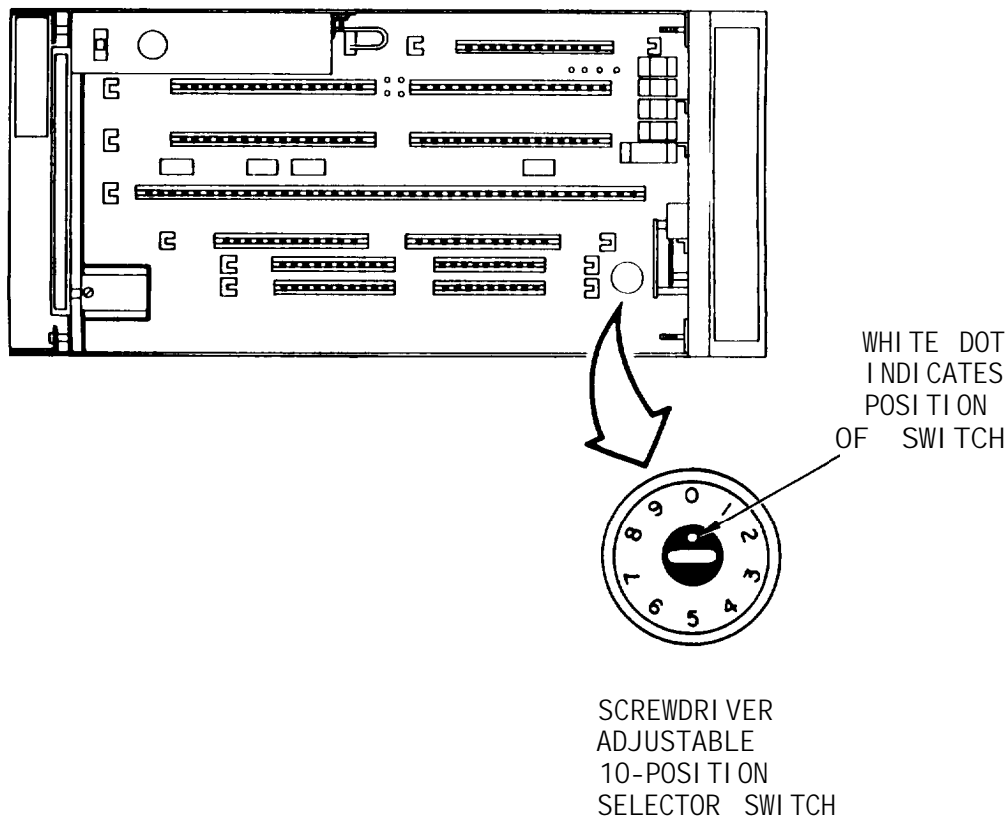

Figure 1-6. Transmit Output Level Switch
b. Transmit Output Level. The output level of the transmit output amplifier is switch-selectable to configure to a variety of applications. Level may be set at -16, -14, -12, -10, -8, -6, -4, or 0 dBm (fig. 1-6).
(1) In 2400 baud mode it requires a balanced 600-ohm, type 3002, C2 unconditioned telephone line or equivalent, with a normal 16 dBm loss and frequency translation of up to  $\pm 10$  Hz.
(2) In 1600 baud mode it requires a balanced 600-ohm, type 3002, unconditioned telephone line or equivalents, with a normal 16 dBm loss and frequency translation of up to  $\pm 10$  Hz.
(2) Transmit Output Level Switch. The transmitter output signal level is controlled by a ten position screwdriver-adjustable switch located near board A7 (fig. 1-6). Position 0 terminates the transmit line in 600 ohms.